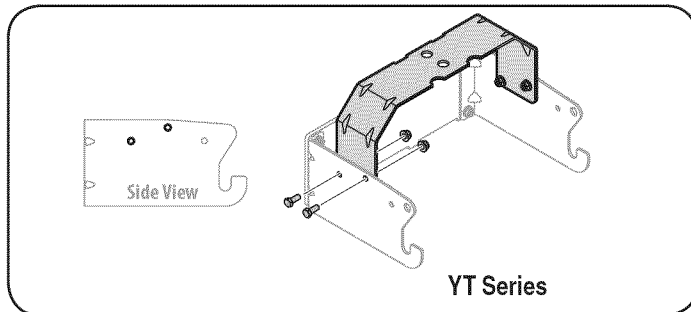

Figure 5
- **For YT Series Models 247.XXXXX:** Mount the hitch support using the holes closest to the universal mountain bracket. See Fig. 5.